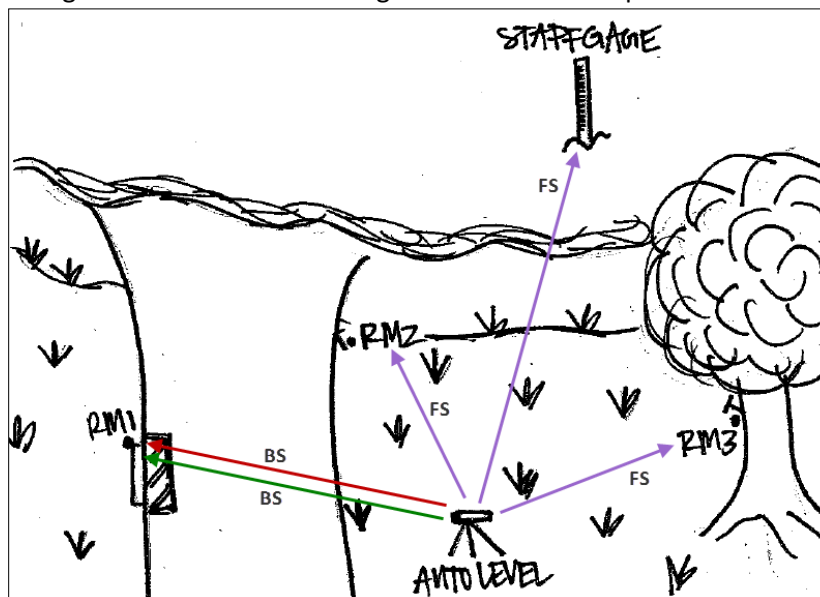

Figure 8. Visual depiction of a completed survey
9. Place the rod back on RM1 and read the rod through the survey instrument once again and record the final BS reading on the data sheet. See Figure 8 for a visual depiction of the survey.